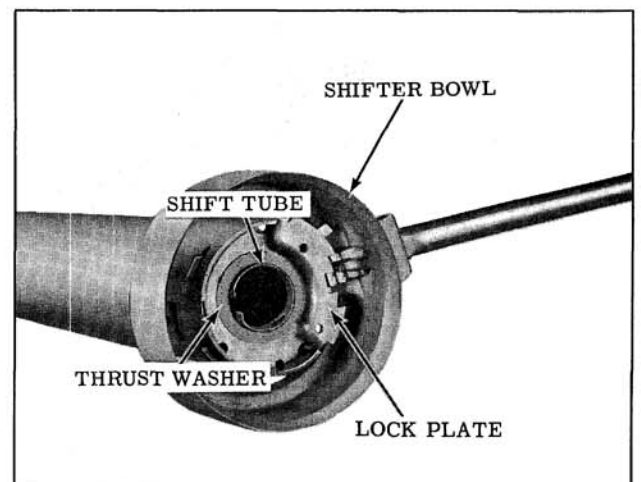

Fig. 8-108 Lock Plate Location
6. Place the wave washer on the lower side of the lock plate, retain with ball joint lubricant, then slide the lock plate into position through the opening in the mast jacket. (Fig. 8-108)